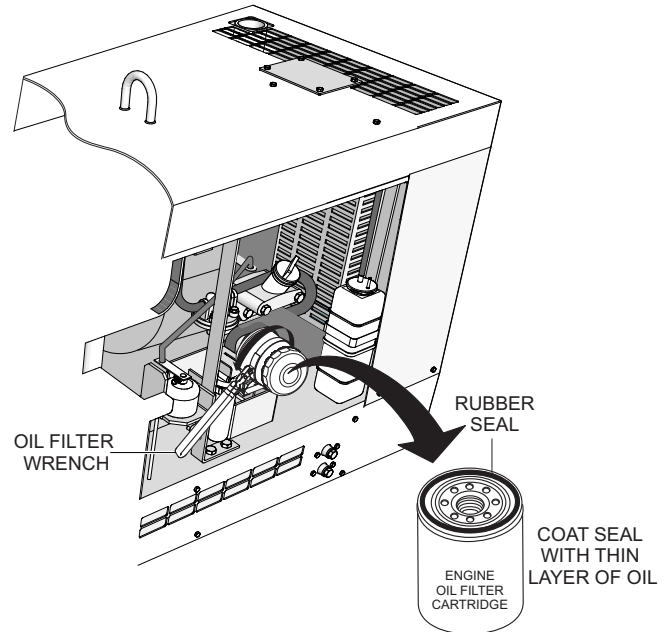

Figure 40. Oil Filter Cartridge
2. Coat oil filter seal (Figure 40) with clean engine oil.